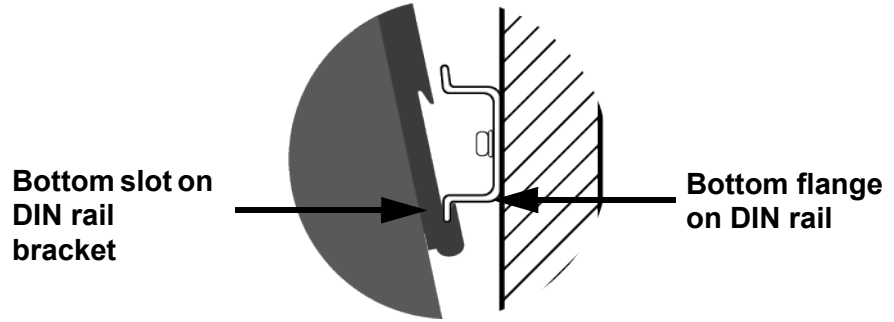

Figure 24. Installing the Switch on a DIN Rail - 1
2. Hook the bottom flange on the DIN rail into the bottom slot on the DIN rail bracket on the switch. Refer to Figure 24 on page 74.